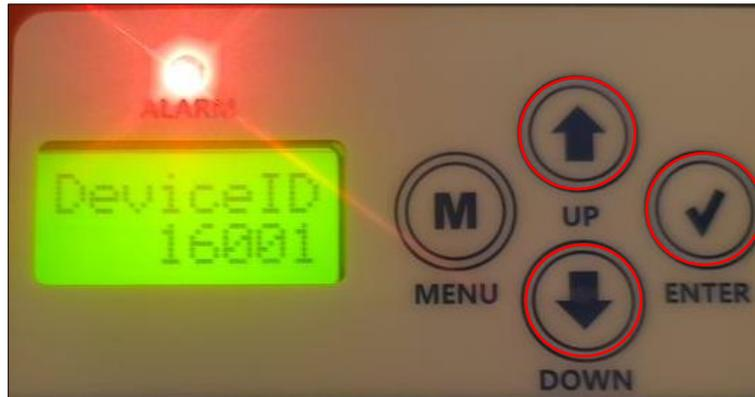

Figure 49: Setting The Device ID On VCCX
5. Hit Enter and the Device ID screen will display. Adjust the Device ID by hitting the up and down arrows on the display keypad (see figure 49).